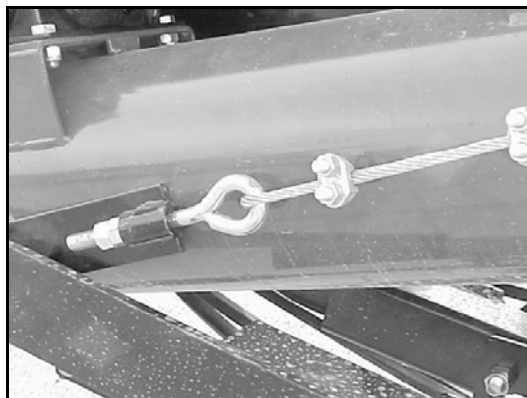

Figure 6.6 Cable Adjustment
1. Locate the eyebolt anchors for the cable. Refer to Figure 6.6.